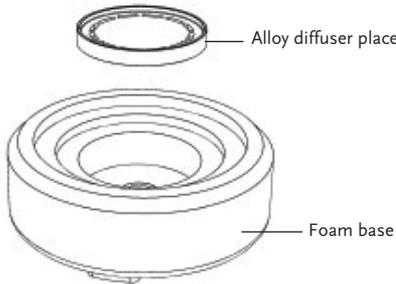

Figure 6
- Insert the alloy diffuser plate into the base cavity. The diffuser plate is reversible and cannot be inserted incorrectly. Ensure that the plate is all the way at the base of the chamber. (Fig. 6 and 7)